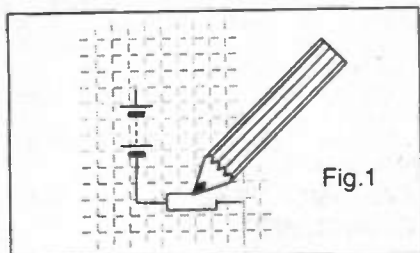

Fig. 1
1. The circuit diagram is drawn using component symbols (Fig. 1)